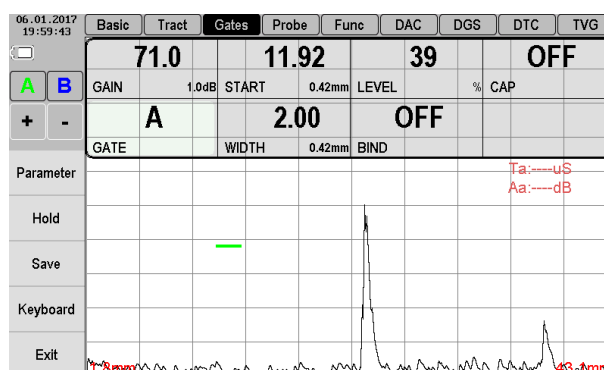

Figure 2.29 – Gate selection in parameter «GATE»
1. Select the gate (A or B) for setting in parameter «GATE» (Figure 2.29). After this, all settings are made for this particular gate.